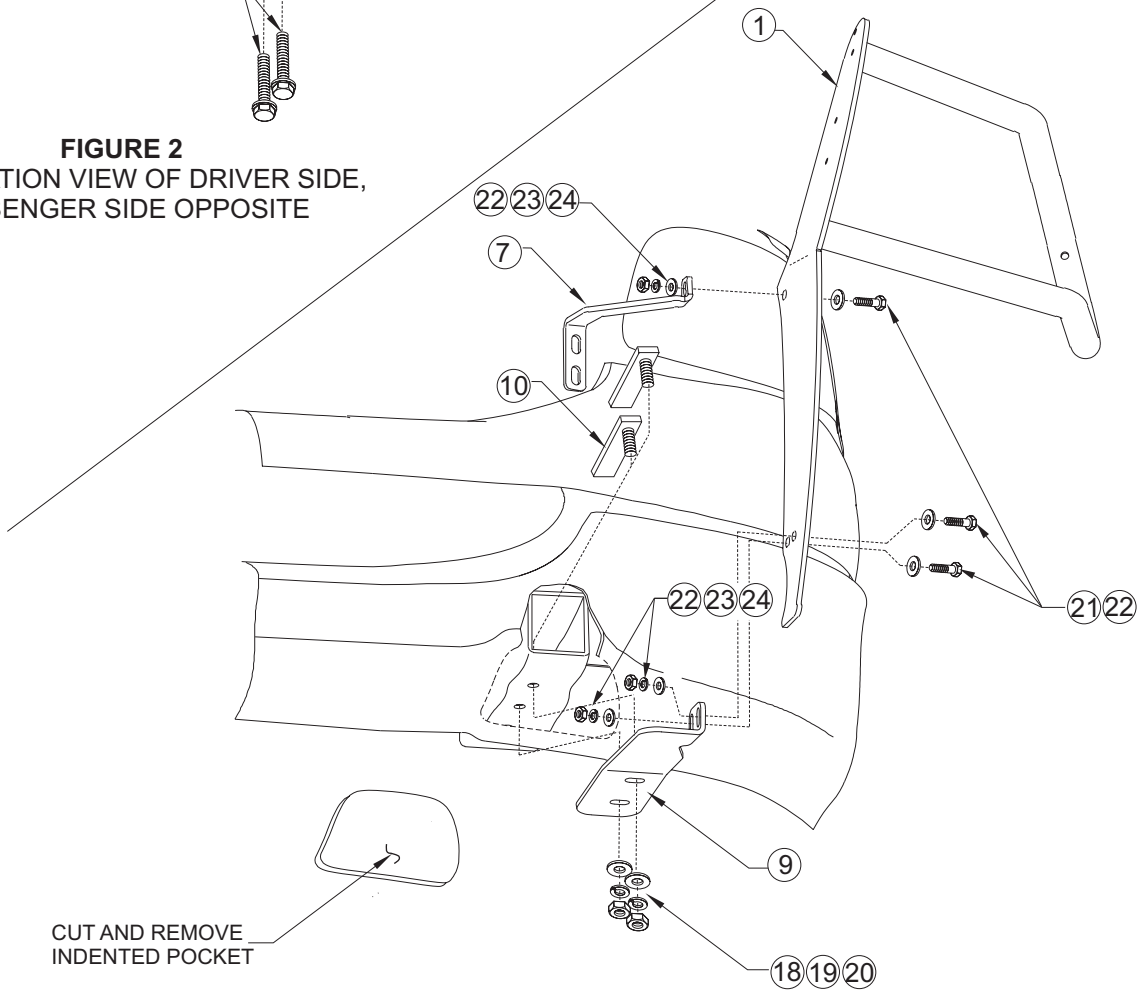

FIGURE 3
- STEP 5. Insert two bolt plates through the end of the frame and into bottom frame holes. **NOTE:** It may be necessary to remove the lower plastic portion of the bumper to gain access to ends of the frame rails. The indented pockets in the lower bumper will need to be cut out with a utility knife to allow bottom brackets to pass through. **SEE FIGURE 3.**